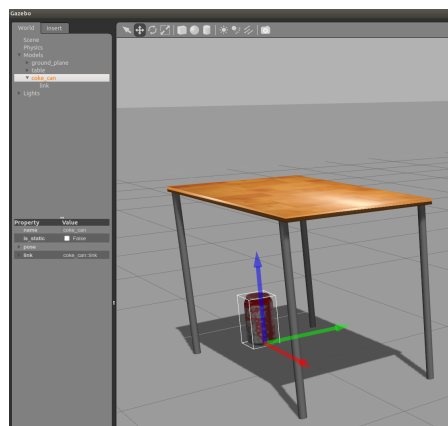

Figure 3.4: Moving an object on the simulation.
- 2.- With the simulation window active, press *T* on the keyboard. Then, click on the object under de table. You will see a coordinate frame attached to the object (see Fig. 3.4).